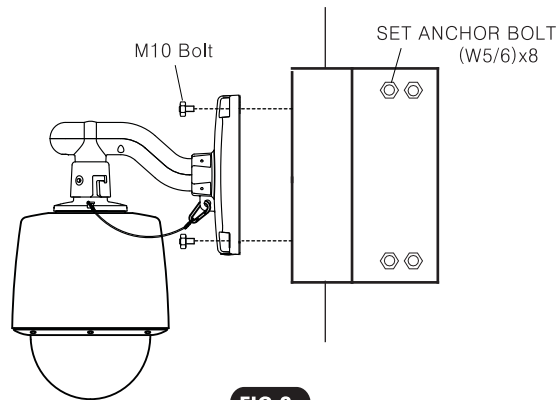

FIG.2
- a-3. Install SET ANCHOR BOLT on the holes. (FIG.2)
- a-4. Fix the wanted Wall Mount Kits on the corner mount bracket with 4 ea of M10 BOLT before you install the corner mount bracket. (FIG.2)